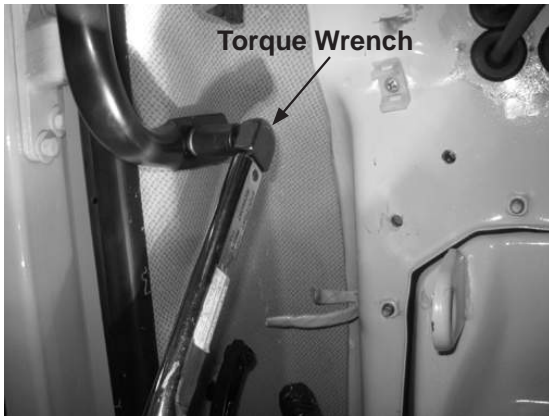

Figure 9-6
- Using new mounting bolts (GM410108AD16), reinstall the grab handle. Tighten to 13 ft-lb (18 N•m) of torque (see Figure 9-6).